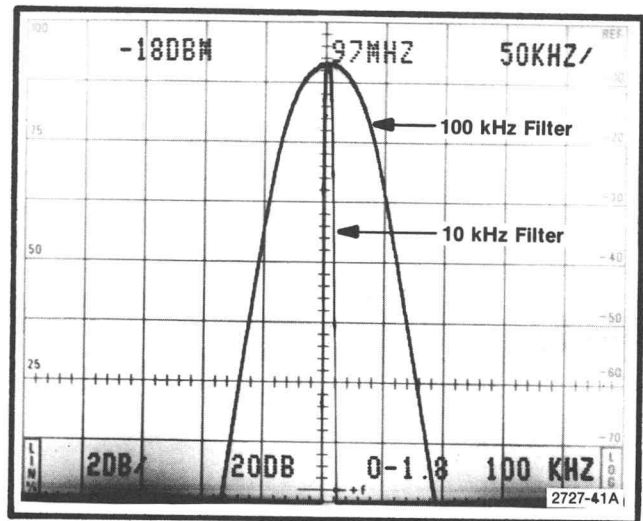
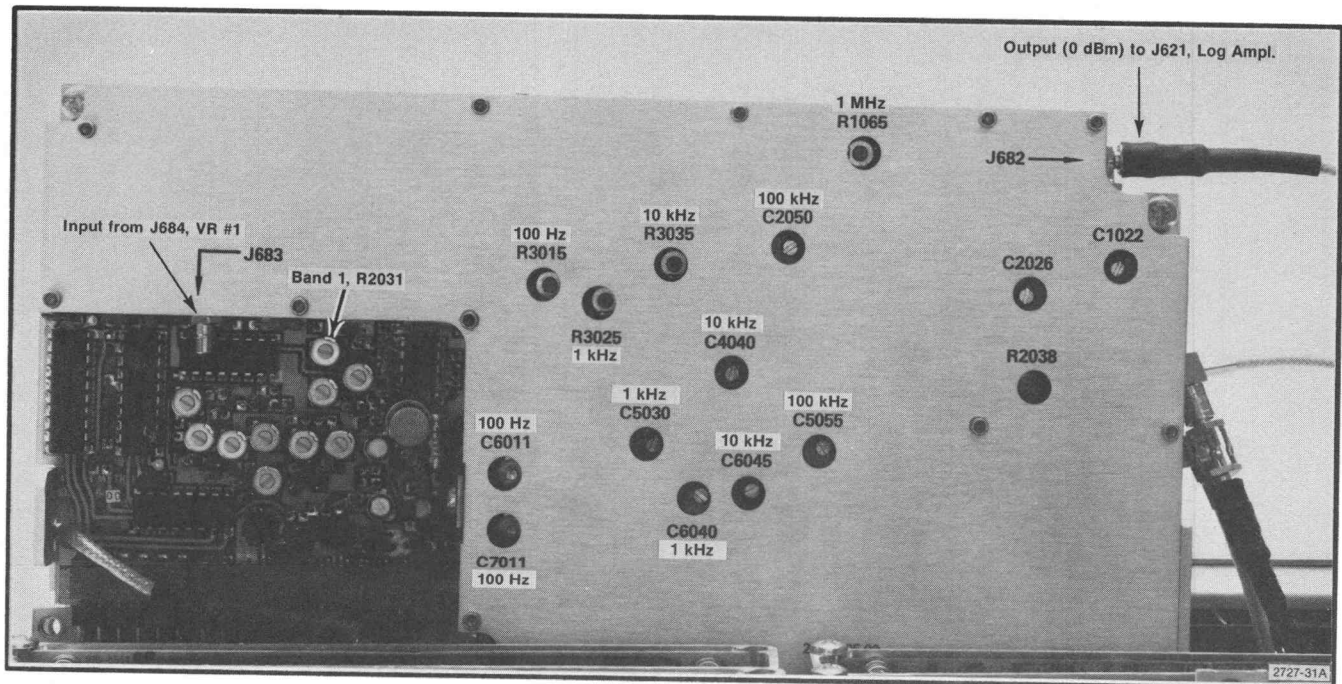

Fig. 3-42. Response of the 100 kHz filter.
Fig. 3-43. Calibration adjustments on VR #2 module.
d. Adjust C2050 and C5055 (Fig. 3-43) for the best 100 kHz filter shape and waveform centering (100 kHz, 3 dB down, and centered with respect to the 10 kHz reference). Refer to Fig. 3-42.
f. Adjust C2026 and C1022 (Fig. 3-43) for the best 1 MHz filter shape and waveform centering.
g. Return to 10 kHz resolution and recheck centering; then adjust C4040 and C6045 (Fig. 3-43) for the best 10 kHz filter shape.
Locations of the adjustments are shown in Figs. 3-43 and 3-44.
The Post VR Gain, R2038 (Fig. 3-43), is normally preset by removing the VR#2 module cover and applying a -16 dBm (-20 dBm), 10 MHz signal to pin JJ. Adjust for a full screen display with a REF LEVEL of -30 dBm. Replace the cover before proceeding with the other gain adjustments. Band gain adjustments, other than band 1, must be done after tracking has been calibrated and flatness checked. If the range of any band gain adjustments is insufficient, add a diode between the output from U3023 and the base of Q2049, as shown on the schematic diagram for Variable Resolution No. 2.
b. Disconnect P683 from the VR#2 module and apply a 10 MHz, -21 dBm (-28 dBm) signal from the signal generator through a BNC-to-Sealectro adapter to J683 (Fig. 3-43). (This sets the input level to the VR. Level within brackets applies to assemblies prior to assembly number 164-0163-02.)
c. Adjust band 1 Gain, R2031 (Fig. 3-43) of VR#2, for full screen display with -21 dBm (-28 dBm) input.